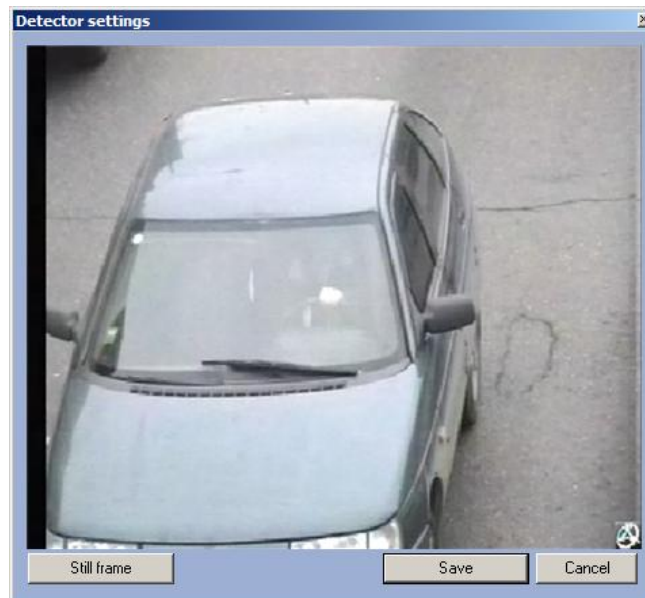

Fig. 7.2-26 Interface of detector setting window (Live Video mode)
- 4.1. Click the «x» button next to the parameters. Interactive interface of setting up the zone parameters (Fig. 7.2-26) showing the image from the corresponding camera will download.